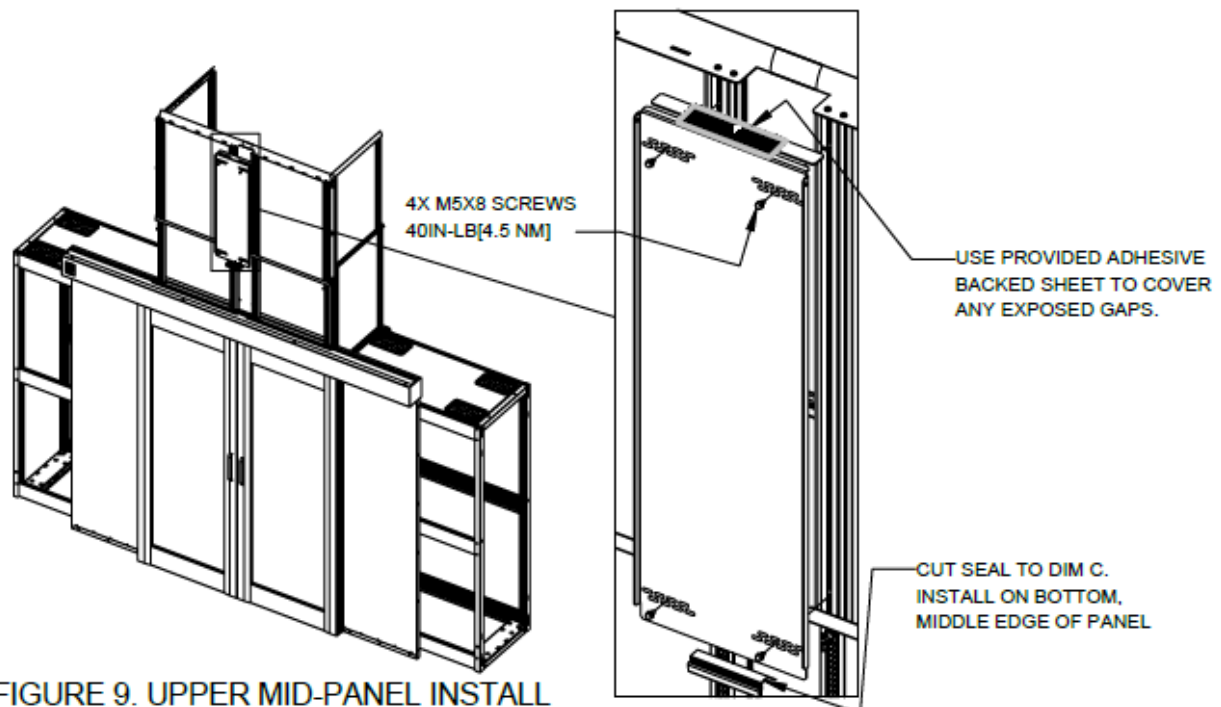

FIGURE 9. UPPER MID-PANEL INSTALL
- B. Tie upper panels use baying bracket shown in Figure 9. If required, use a screwdriver to compress the bulb seal between the adjacent cabinets.
14. Install the upper mid panel as shown in Figure 9 in a similar manner as the lower panel except that the seal is installed on the lower edge.
15. Use the provided sealing sheet to cover any exposed gaps on the upper mid panel as shown in Figure 9.